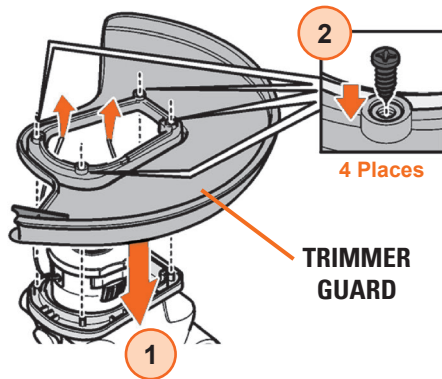

Figure 1
The trimmer guard is an essential part of the line trimmer and must ALWAYS be used to prevent damage to the trimmer and injury to the operator. The guard is not attached to the trimmer when it is delivered to avoid damage in transit. To attach the guard, loosen and remove the 4 screws from the underside of motor housing (see Figure 1). Place the guard on the motor housing ① and align the bores vertically. Screw in the 4 screws and tighten ②.